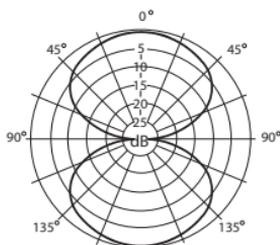

Figure-8
2. **Pattern Switch** – Select from one of the three pick-up patterns: Omnidirectional, Cardioid, Figure-8
2. Set the G-Track Pro's pattern switch. If you are recording a single person, set the switch to the Cardioid position and be sure to face the front side, with the Samson logo. If recording two people, set the microphone to the Figure-8 position and if recording multiple subjects, set the switch to the Omni position.
An important characteristic of any microphone is its directionality or polar pattern. The G-Track Pro feature dual 1" capsules, allowing for a choice of three individual polar patterns: omnidirectional, unidirectional (cardioid), and bidirectional (figure-8). The microphone pattern can be selected using the three-position slide switch below the left side of the grill. Each pattern has distinct pick-up characteristics with respect to the sensitivity and frequency response to sounds arriving from different directions. The following section discusses some of the features of each pattern, to help you choose the best setting for your application.
Bidirectional (Figure-8) - This setting captures sound directly in front and back of the microphone while rejecting sound on the left and right sides, and has minimal off-axis frequency response deterioration. It is very useful in a variety of stereo microphone techniques. The figure-8 pattern can be used to simultaneously capture two instruments or vocalists by positioning the microphone directly between them, so one is addressing the front of the microphone and the other the rear. To select the figure-8 pickup pattern, set the pattern selection switch to the left position.
Polar Pattern	Cardioid (unidirectional), bidirectional (figure-8), omnidirectional